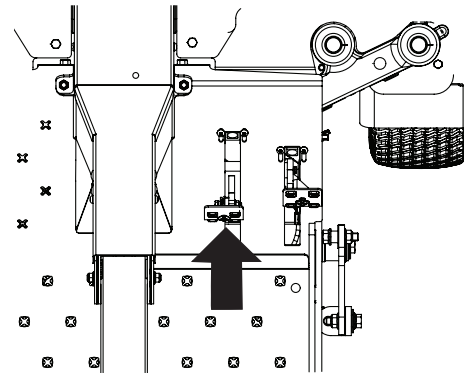

Figure 3-4
1. Slowly push the forward drive pedal forward. The tractor will start to move forward. See Figure 3-4.